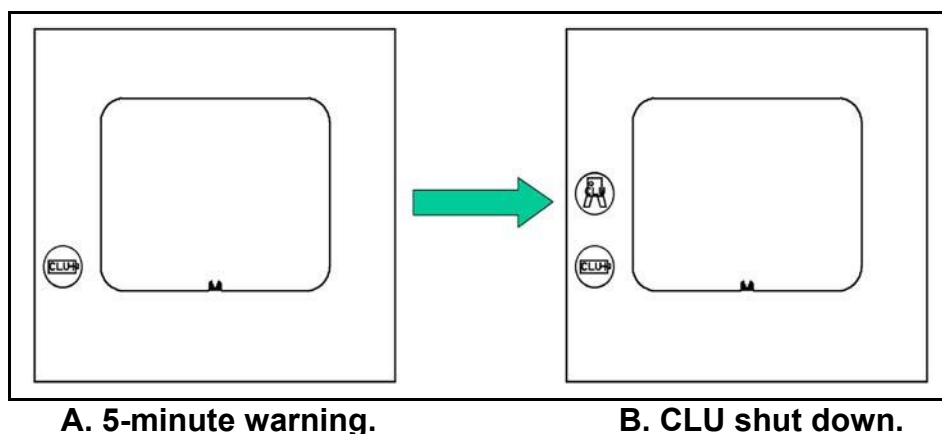

Figure D-3. CLU BATTERY indicator—ON.
- Indicator.** This light is red and is a warning indicator (Figure D-3).